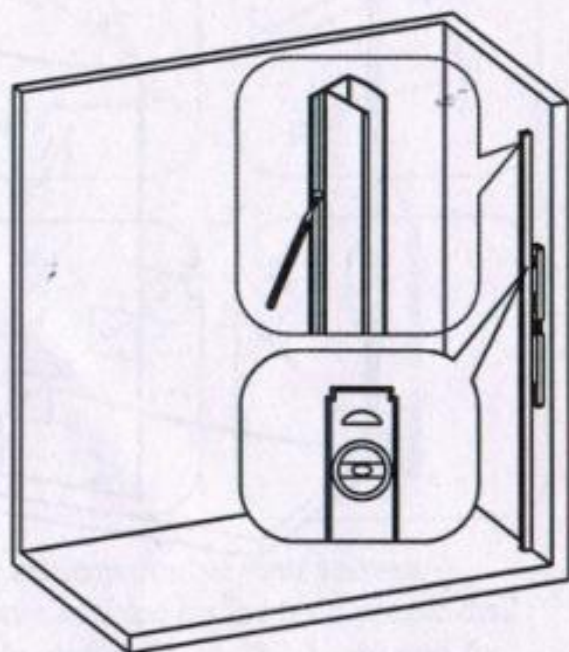

fig 2
2. Place the **wall profile (4)** to the wall and level it, make sure it is vertical to the floor and wall, then make the marks through the predrilled holes on the aluminum profile for drilling. Drill the holes with drill bit($\Phi 8\text{mm}$) and insert the **wall anchor (10)**. (fig 2 & 3)